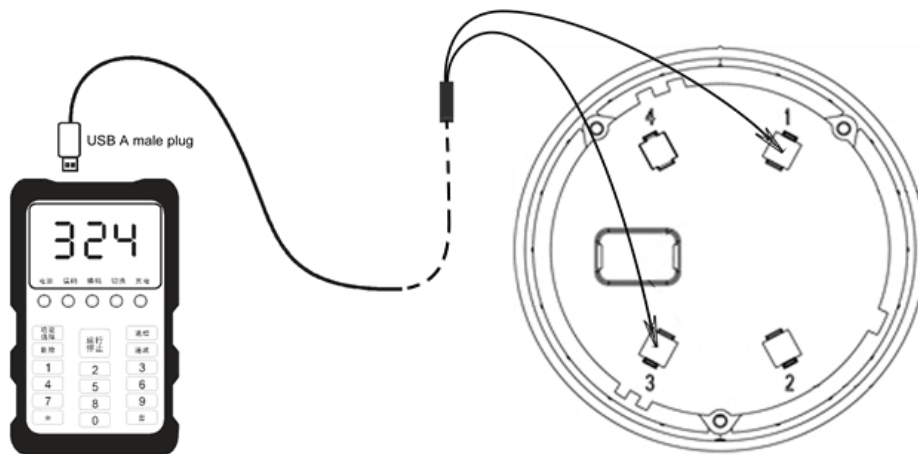

Fig.2
- 1) Wiring:See Fig.2.The sounder beacon is subject to a two-wire non-polarity connection: Terminals 1 and 3 are respectively connected with the terminals L1 and L2 of the loop bus of a compatible fire alarm control panel.
- 2) Coding address: The sounder beacon must be encoded address by a special coder(CODER-F900E) before the installation.Fig.2 shows the wiring diagram of the sounder beacon and coder. After wiring, press the “#”key to select “324”mode,set the coder with the coding function, then select the correct address number and press the “RUN/STOP” key to complete the address code setup.(Note: See the User’s Manual of the coder for the detailed operation.)